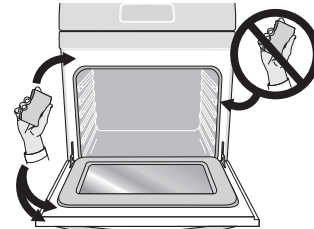

Figure 27: Clean around the oven door gasket
9. Wipe oven cavity and bottom. Do not clean oven door gasket (Figure 27). Avoid leaning or resting on the oven door glass while cleaning cavity.